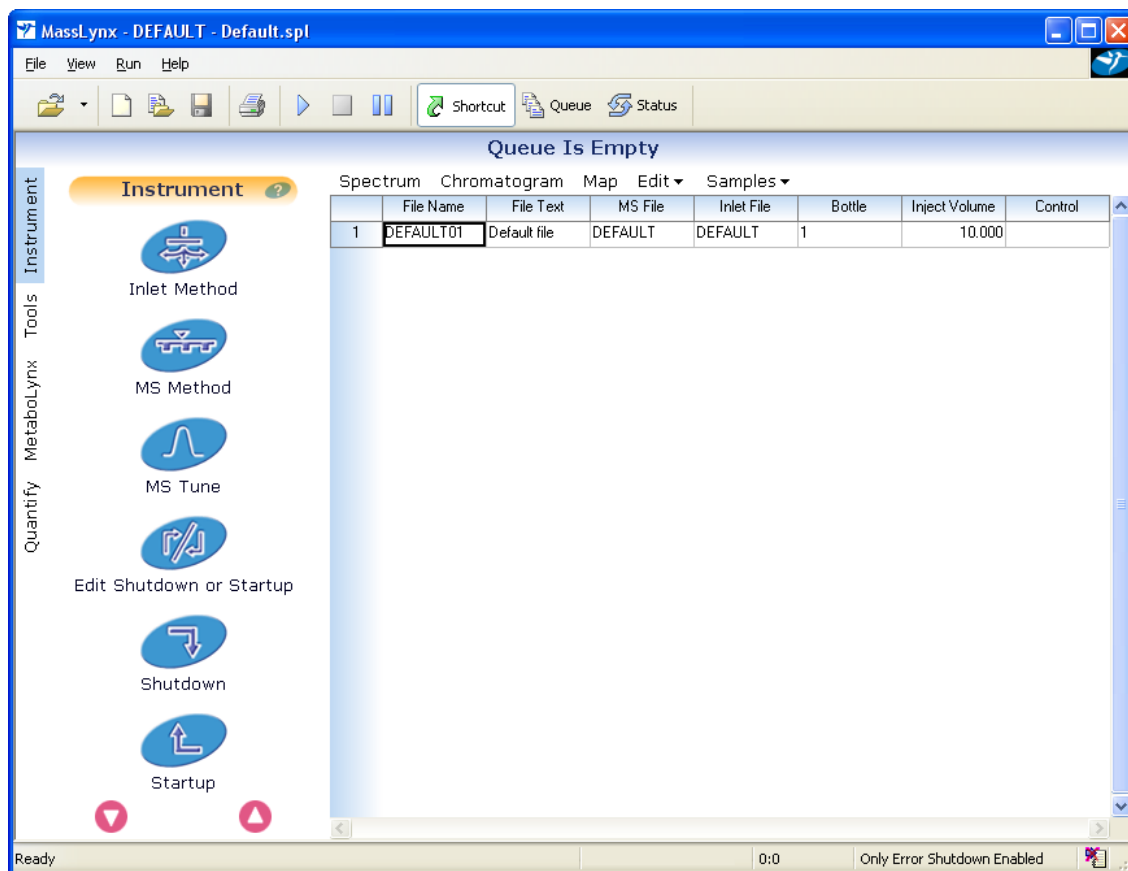

Figure A-1 MassLynx Window
3. Start the MassLynx software. The MassLynx window appears and the word "Ready" appears in the status bar at the bottom (see Figure A-1).